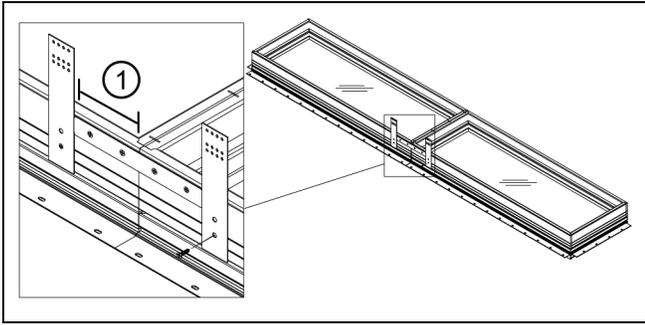

Figure 33
5. Install the steel mullion tie across head jambs and fasten with two #7 x 5/8" Phillips flat head wood screws into each unit. Install structural brackets 4" (102) from the mullion and attach with one #7 x 5/8" Phillips head screw as shown in Figure 33.